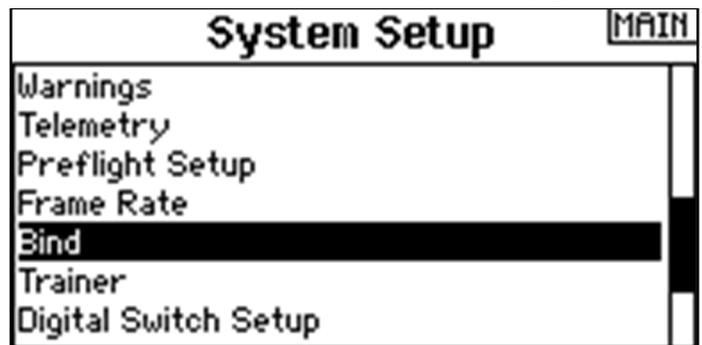

Figure 3: The "Bind" function in the System Setup
4. Switch on the transmitter with the scroll wheel pressed. Select "Bind" in the "System Setups" menu (Fig. 3).